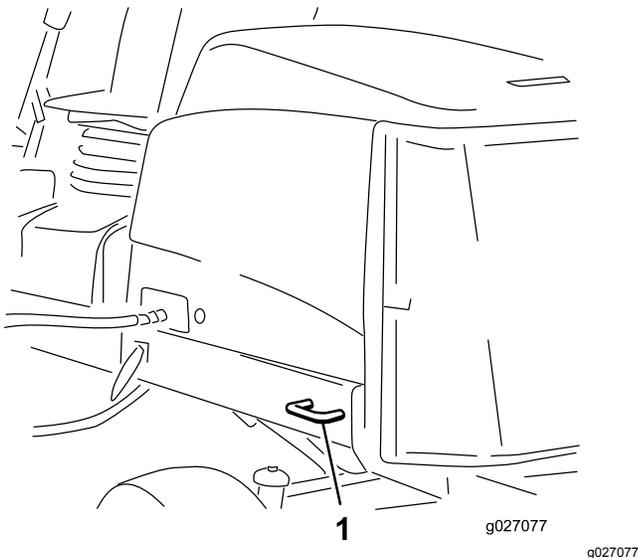

Figure 42
- Rear—each side of the machine on the rear frame (Figure 42)